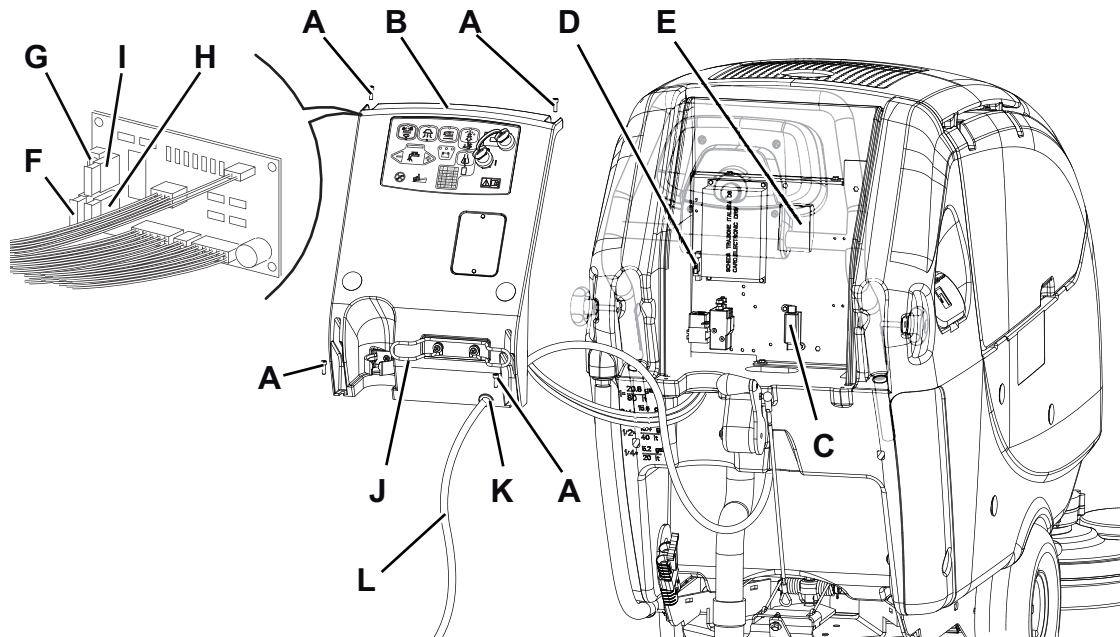

Figure 9
*The draining cycle can also be performed with the detergent tank (45) full of water, thus cleaning the system thoroughly. It is advisable to perform this type of draining to clean the system from dirt and deposits if the machine has not been used/cleaned for a long time.*
*The draining cycle can be performed also to quickly fill the detergent supply hose when the tank (45) is full but the system is still empty.*
1. Disconnect the battery connector (12).
2. Move aside the recovery water drain hose (16).
3. Remove the battery charger cable (L, Fig. 9) from the cable holder (J).
4. Remove the screws (A) and carefully move aside the panel (B) by disengaging the grommet (K) from its housing on the panel (B).